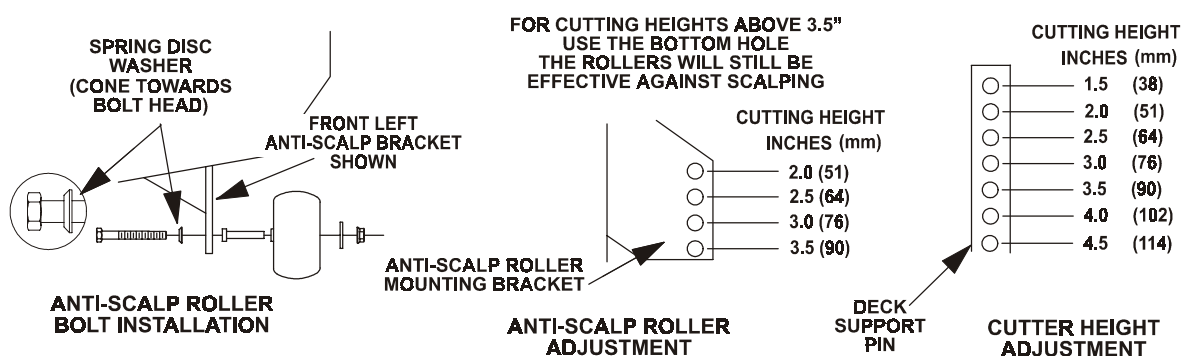

FIG 7
- a) Install hairpin clips in the holes shown on sketch below for the desired cutting height (See Figure 7).
- b) Adjust anti-scalp rollers for Normal Operating Conditions. Place rollers in one of the positions shown in Fig. 7. Rollers will maintain 3/4 in. (19 mm) clearance to the ground to minimize gouging and roller wear or damage. **For Maximum Deck Flotation**, place rollers one hole position lower. Rollers should maintain 1/4 in. (6.4 mm) clearance to ground. **Do Not** adjust rollers to support the deck. Be sure roller bolts and nuts are installed with the spring disc washer between head of the bolt and mounting bracket. **Torque to 40-45 ft-lbs, or loss of roller may result.**
- c) When operating in extremely rough conditions it may be necessary to position the anti-scalp rollers one or two holes higher than described in "b" to prevent damage to the rollers and/or bolt failure (See Figure 7).